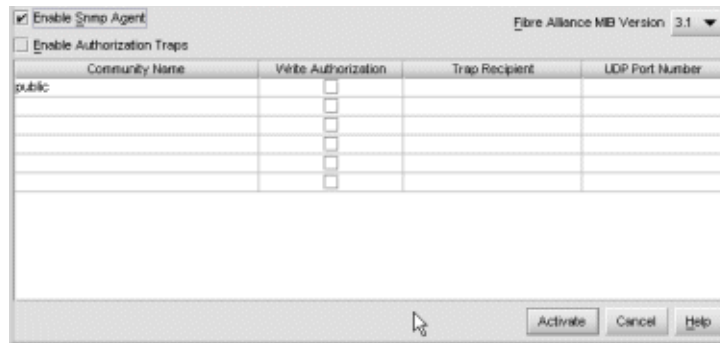

Figure 48: Configure SNMP dialog box
1. At the **Hardware View** page, choose **Configure > SNMP Agent**. The Configure SNMP dialog box displays, as shown in Figure 48.